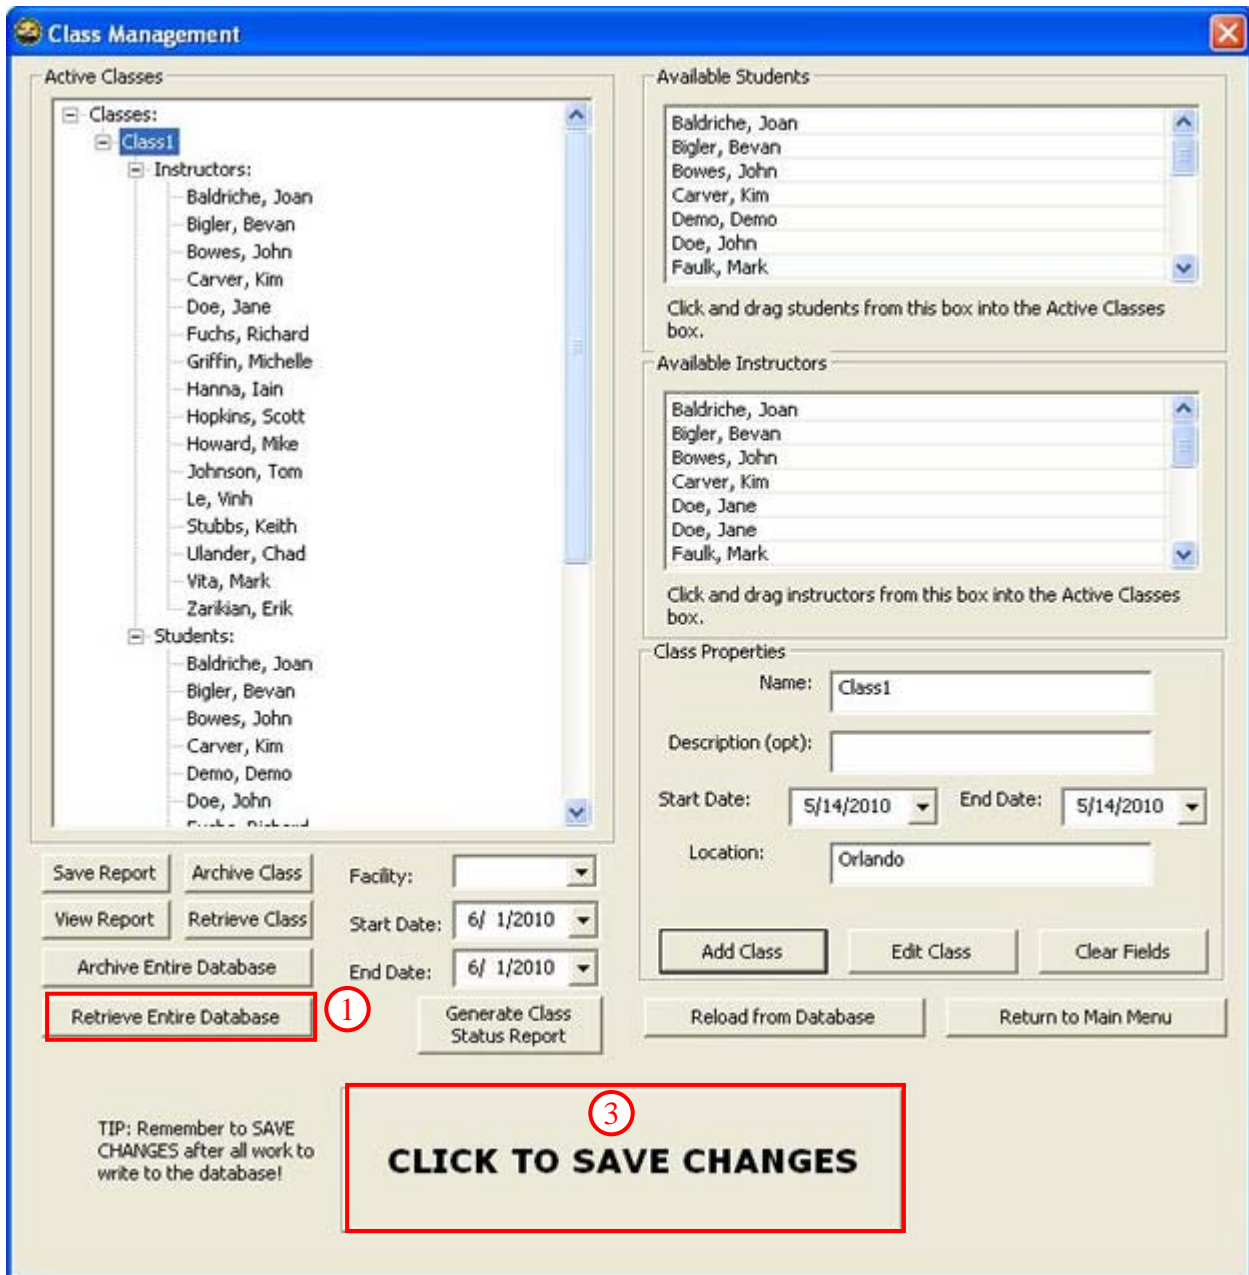

Figure 94. Class Management - Retrieve Entire Database
1. Click the [RETRIEVE ENTIRE DATABASE] button (Figure 94).